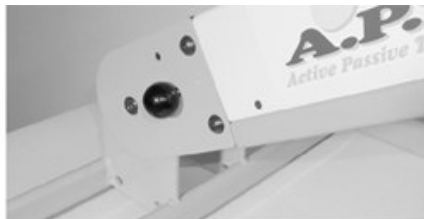

Figure 6 - angle release knob
Step 2: Loosen the angle-securing knob (Figure 5-1) and adjust the **APT-5** to the required angle. To increase the angle, lift the body of the **APT-5**, allow it to “click” into one of the operating positions and retighten the securing knob. To decrease the angle, pull the angle release knob (Figure 6), lower the body of the **APT-5**, allow it to “click” into another operating position and tighten the securing knob.